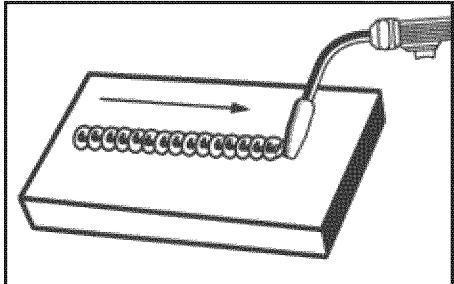

Fig. 9a
- STRINGER BEAD is formed by traveling with the torch in a straight line while keeping the wire and nozzle centered over the weld joint. (Fig. 9a)
- FLAT POSITION is easiest of the welding positions and is most commonly used. It is best if you can weld in the flat position if at all possible as good results are easier to achieve. (Fig. 9a)